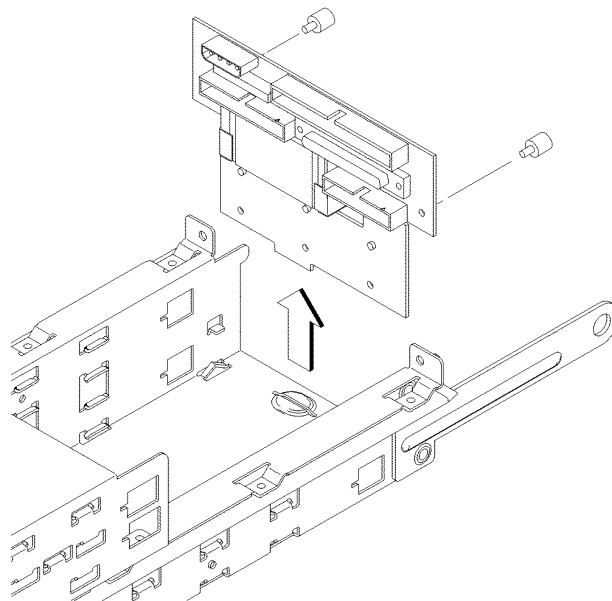

Figure 34
- 1 Remove the two retaining screws from the disk interconnect board, as shown in Figure 34.
- 4 Hold the disk interconnect board on the edges and lift it straight up to remove it, as shown in Figure 34.